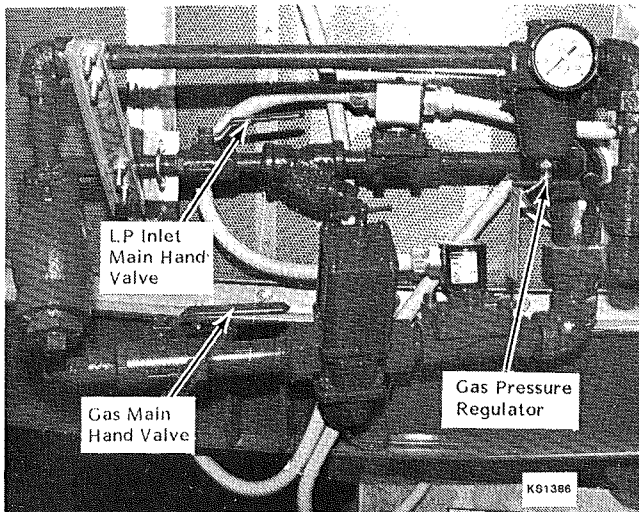

Figure 6 - LP Piping
2. Liquid Propane (LP) Fuel
- A. Turn the LP inlet hand valve (Figure 6) 90° to the piping to shut off the LP at the dryer.
- B. Turn the main hand valve (Figure 6) 90° to the piping to shut off the gas to the burner.
3. Natural Gas (NG) Fuel